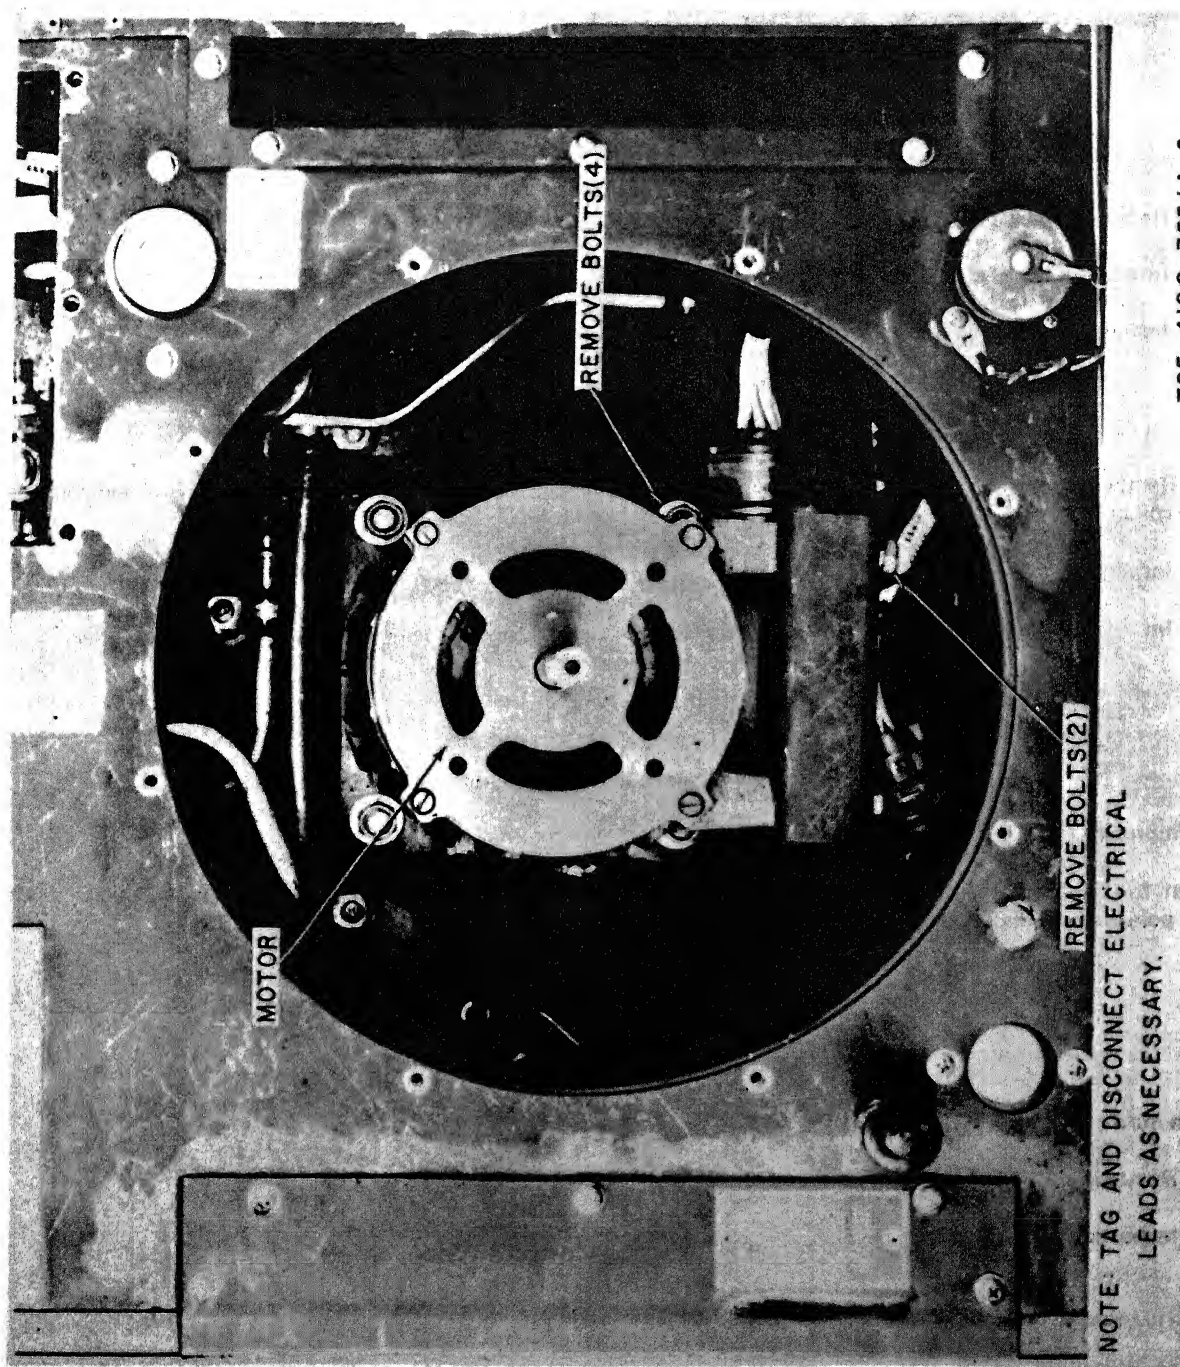

Figure 4-6. Fan Motor, Removal and Installation.
- a. **Removal.** Refer to figure 4-6 and remove the motor.
(1) Inspect for dents, cracks, and broken or damaged leads.